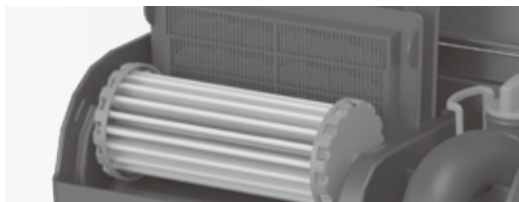

Fig. 1
- 2 Rinse the cartridge** in clean, room temperature water that has been treated with a water conditioner to remove chlorine (this will extend the life of your carbon). Ensure the cartridge and BIO-Wheel® are secured in place. (Fig. 1)